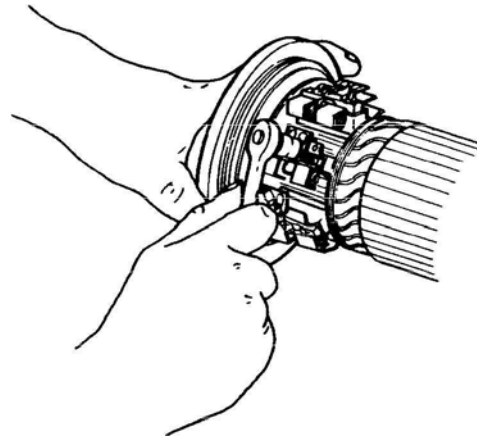

Figure 2-4. Brush Lead Tightening
- 4) Brush Lead Tightening. Low speed and low current are a symptom of high internal resistance which may be caused by loose attaching screws for brush leads. Torque loose brush lead screws as shown in Figure 2-4 to 18-24 lb-in (2.0 to 2.7 N•m).